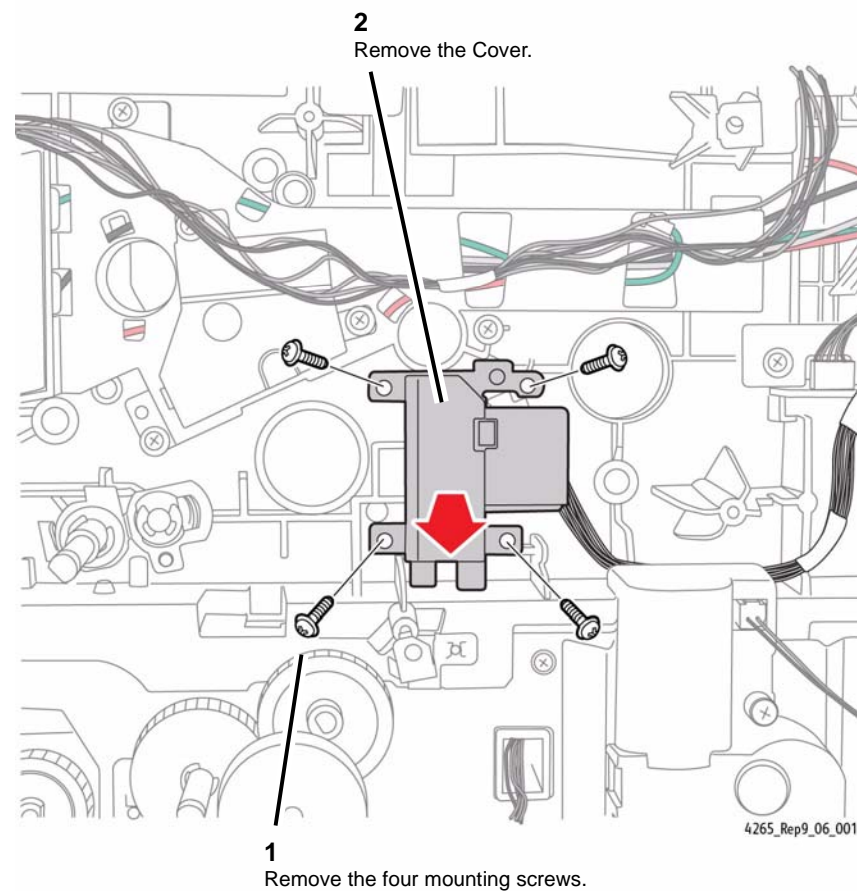

Figure 1 Removing the Cover
2. Remove the Cover (Figure 1).